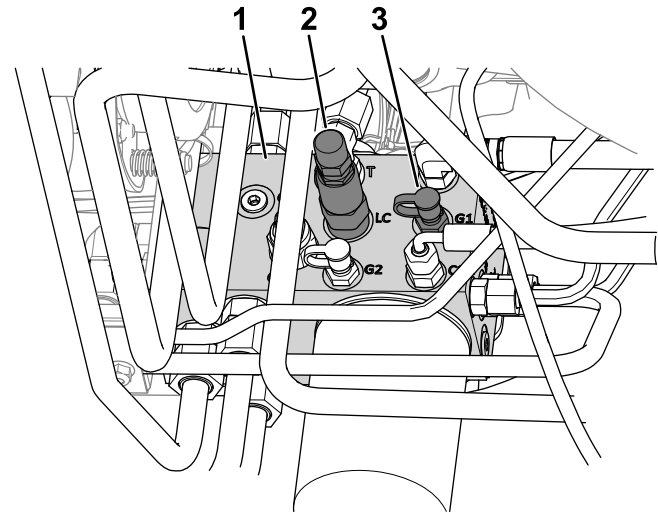

Figure 20
- Connect a pressure gauge to the test port (labeled G1; refer to Figure 20).
- Weight-transfer spool (LC)
- At the side of the lift manifold, remove the cap from the test port (labeled G1; refer to Figure 20).
- Loosen the jam nut at the end of the weight-transfer spool (labeled LC; refer to Figure 20).